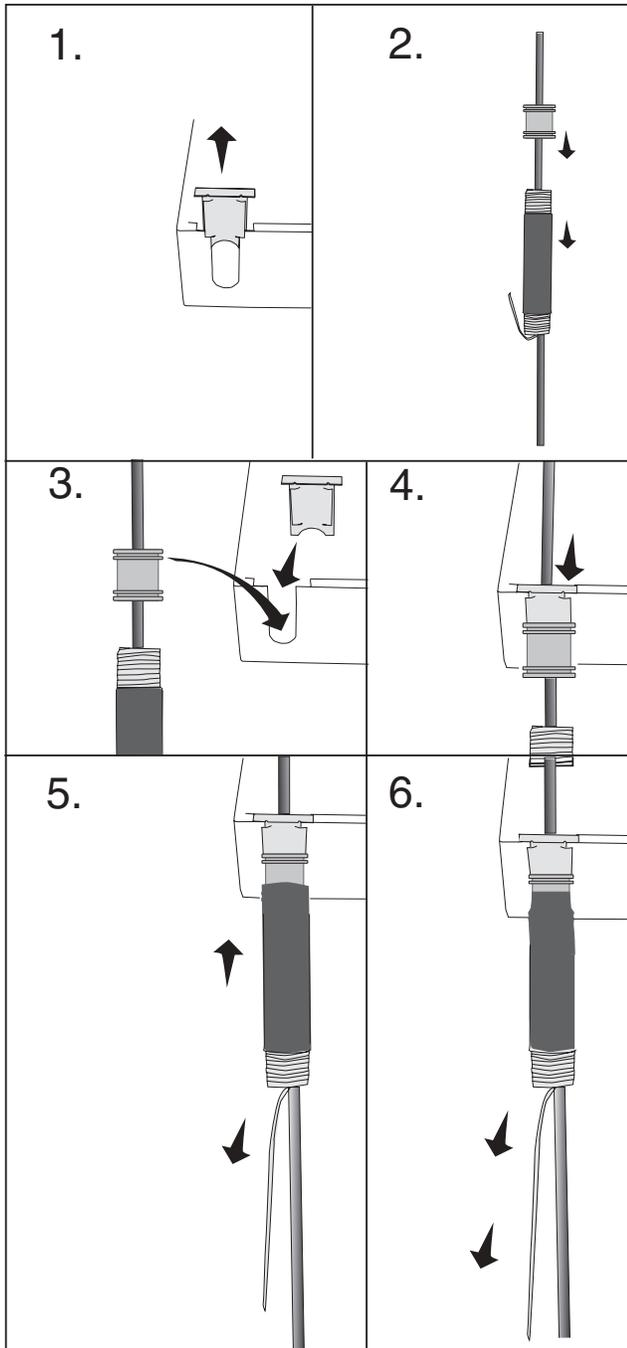

Figure 5
7.1 Remove slide plate from base of BET (Figure 5, step 1) by loosening the screws.